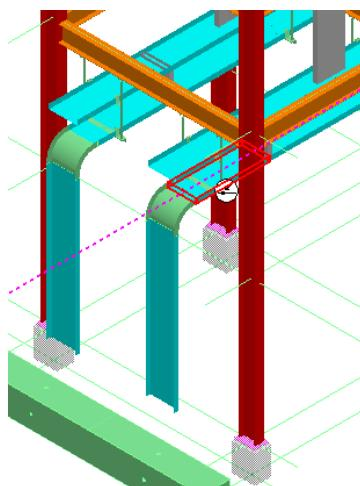

Figure 43: Selected Cableway Feature
24. Select the **Cableway Straight Feature** from the bottom cable tray, as shown in Figure 43.